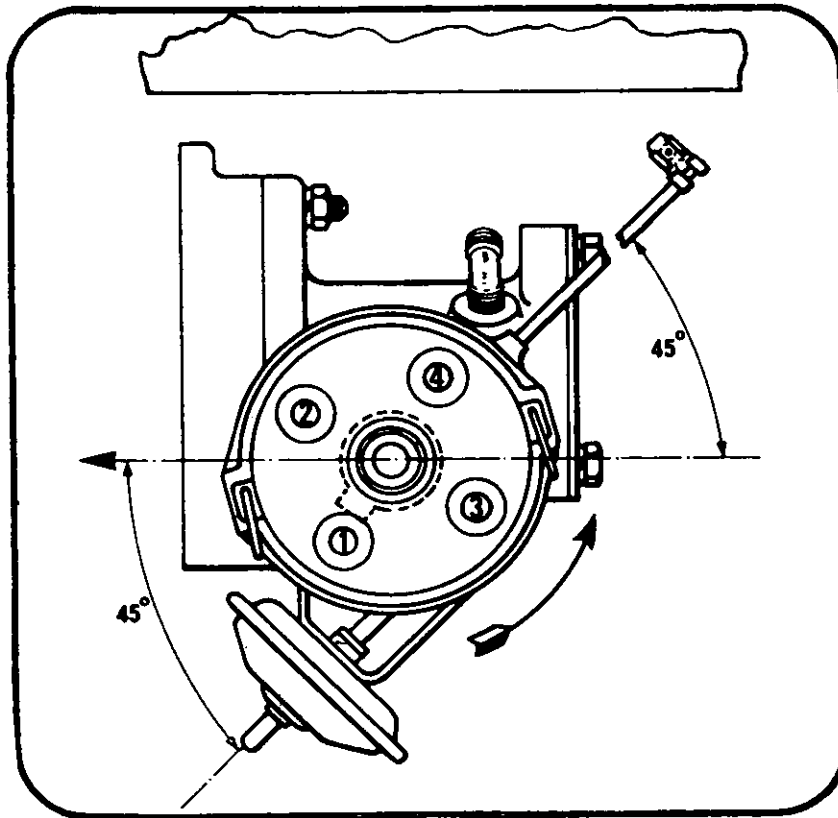

Fig. 8.
2. Fit distributor with rotor arm, vacuum advance capsule and L.T. lead as in Fig. 8.